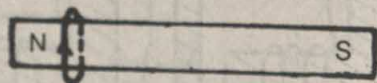

Fig. 7.30
27. A circular coil of wire, free to move, rests near one end of a bar magnet as shown in Fig. 7.30. What will happen if a current is made to flow in the coil in the direction shown? Give reasons.